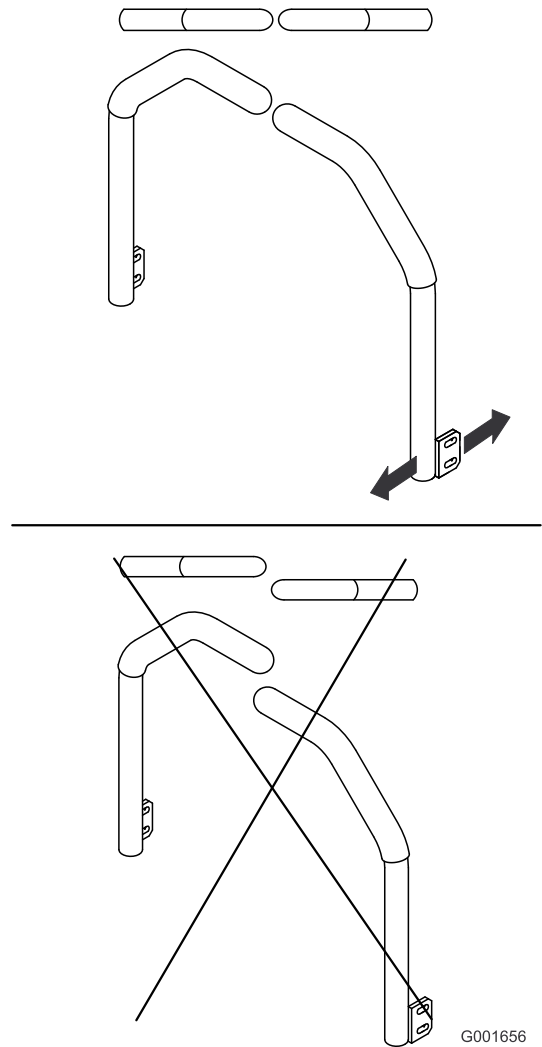

Figure 94
5. Adjust the control levers so that they line up and tighten the bolts, securing the levers to the posts (Figure 94).